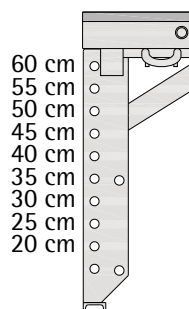

Fig. 25
2. Fasten second unit on the already standing unit with Grip bolts and retaining pins. The connection holes to the respective cross-sections are visible in Fig. 25.